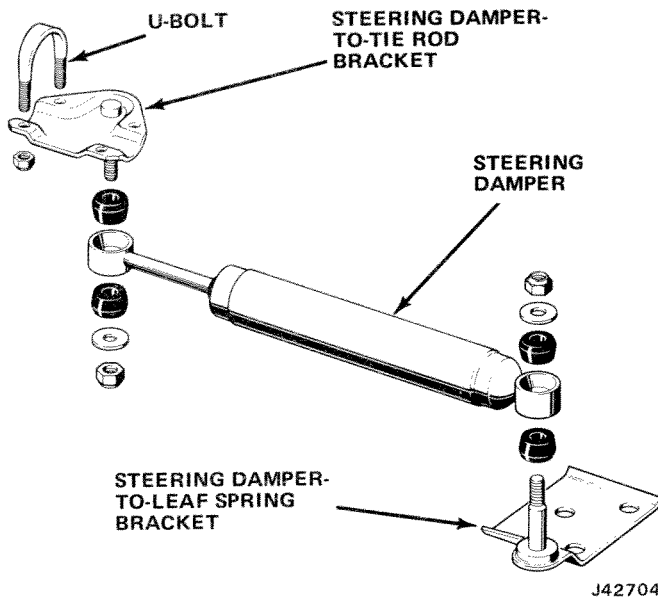

Fig. 11-48 Steering Damper
(1) Place front wheels in a straight-ahead position.
(2) Remove locknut securing damper to bracket on tie plate and lift damper off stud (fig. 11-48).
(3) Remove locknut securing push rod to tie rod bracket and remove damper assembly.